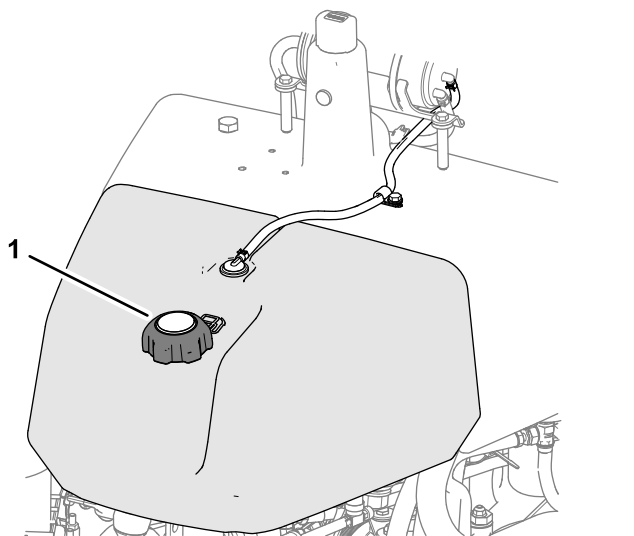

Figure 24
1. Clean around the fuel-tank cap and remove it (Figure 24).